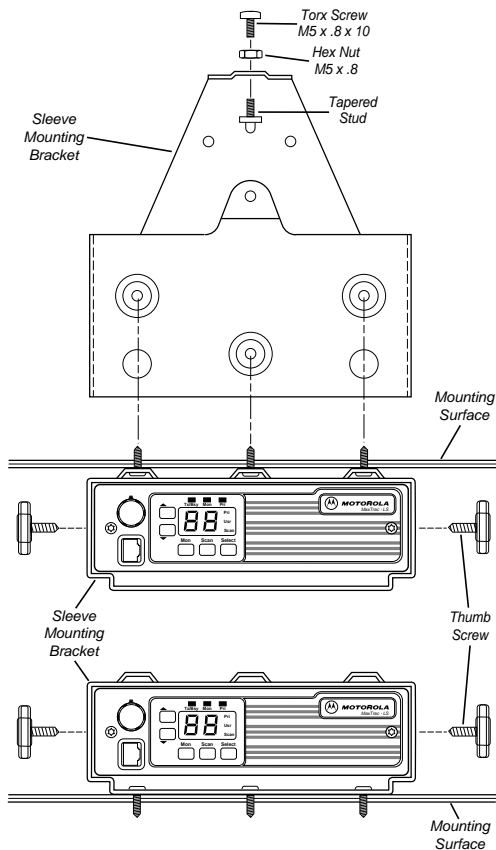

Figure 7 - Sleeve Mount for Radio
1. Select the location to mount your radio either ON or UNDER DASH. See Figure 7.
6. Install the tapered stud and nut in the rear hole of the sleeve mounting bracket as shown in Figure 7.